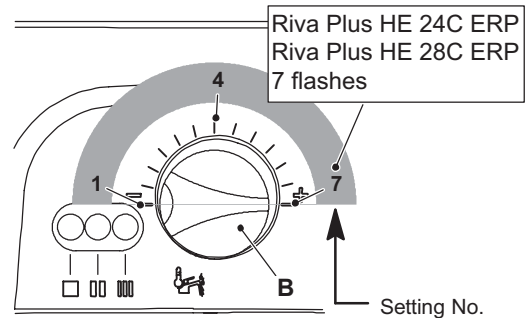

Figure 10.11
At this step it is possible to visualize the current setting by keeping the reset button D pressed for more than 5 seconds. The lamps F will flash a number of times corresponding to the setting Figure 10.11 (seven times for Riva Plus HE 24C ERP and Riva Plus HE 28C ERP).
- 12 To change the setting turn the knob B on a position corresponding to the boiler model (Figure 10.11). By turning the knob B, the lock-out signal lamp E blinks quickly (2 per seconds) indicating that the setting has changed and must be memorised.